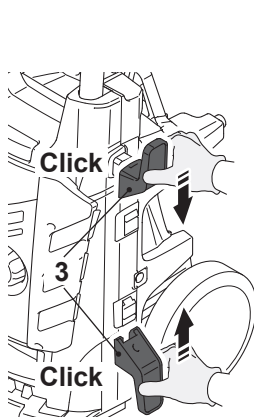

Fig. 1
- > Attach the two supply cord holders (3) to the product (Fig. 1). Ensure it engaged properly.